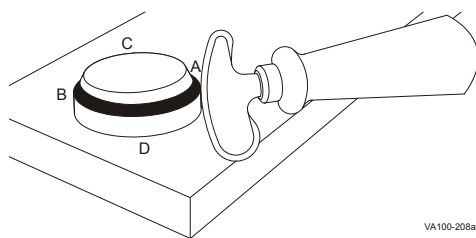
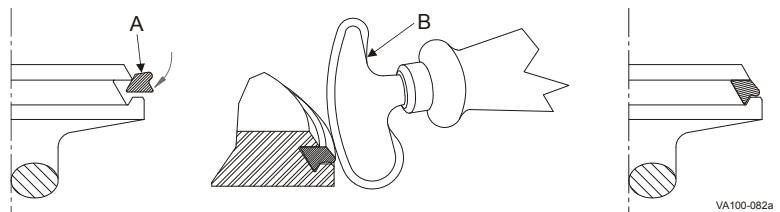

Figure 23 - Pressing Tri Ring Into Plug
Figure 22 - Installing New Tri Ring Seat
- Lubricate the new Tri Ring (Figure 22, item A) with acceptable cleansing solution or lubricant.
- Start the Tri Ring as shown in Figure 22.
- Using the installation tool, part number 102797+ (Figure 22, item B), press the Tri Ring into the plug at locations A, B, C, and D (Figure 23). If the tool is not used, DO NOT use a knife or any other sharp item that will tear or cut the Tri Ring.
- When properly installed, the Tri Ring seat lip will protrude slightly from the seat edge as shown in Figure 22.